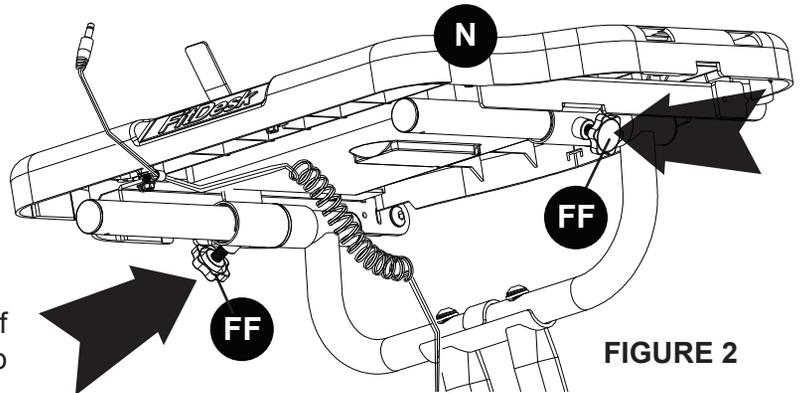

FIGURE 2
The Desk (N) and ride position can be adjusted by loosening the knobs (FF) located on the underside of the Desk Slide. Slide the Desk (N) forward or back to a comfortable position, then tighten the knobs (FF). **Figure 2**